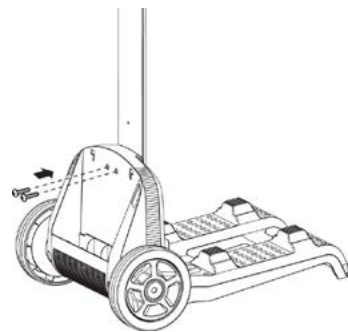

Figure 10
2. Using two of the shorter Phillips-head screws provided with the caddy, secure the caddy chassis to the handle support. See **Figure 10**.